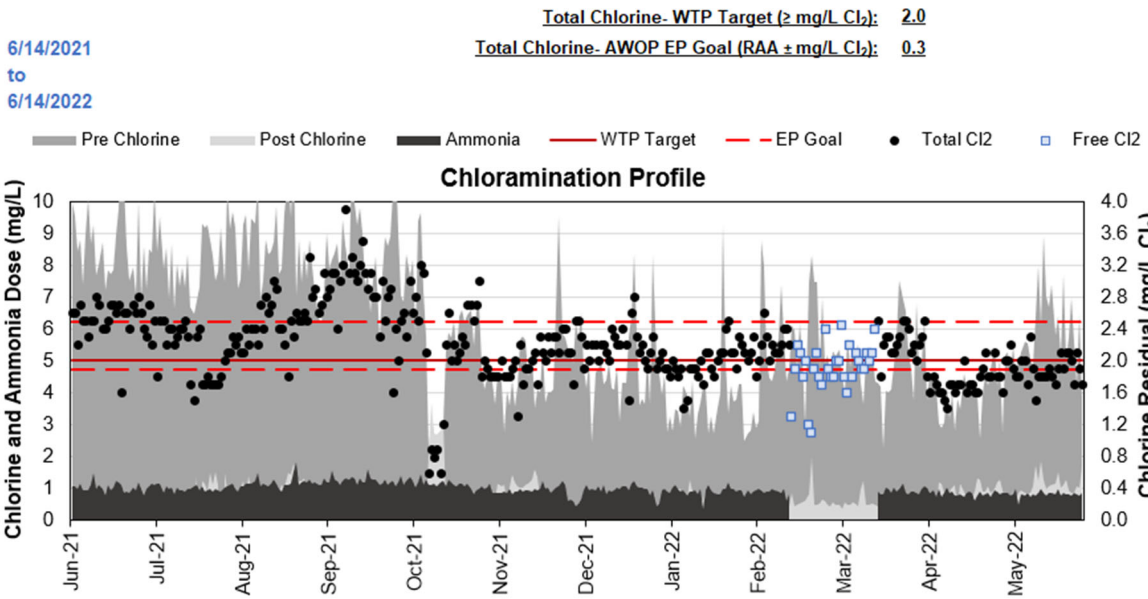
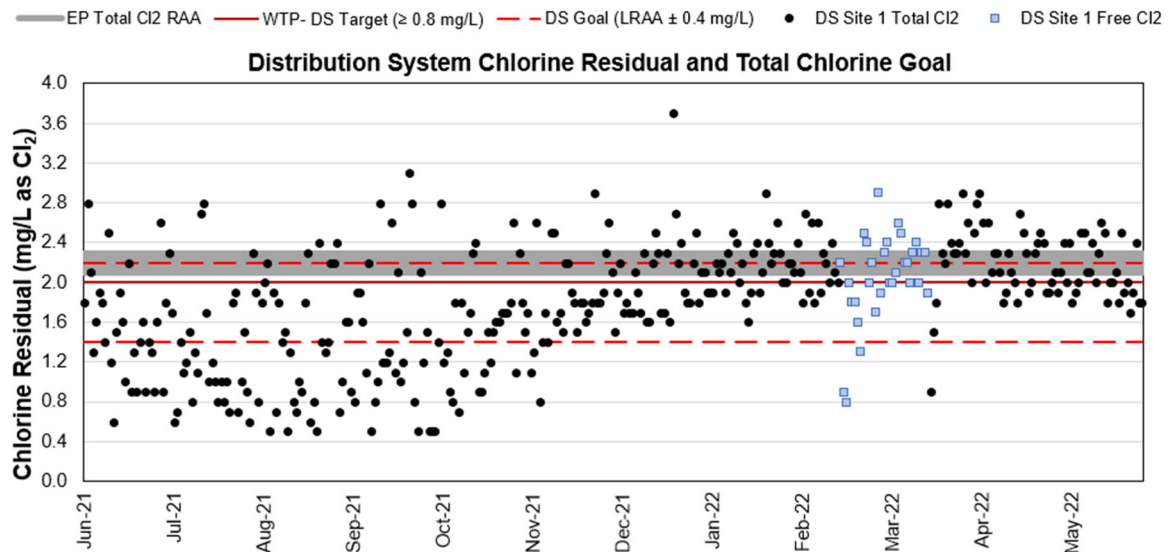

Figure 5: Example Disinfection Performance Summary in OAS
Figure 6: Example DS Chlorine Residual Performance Summary in OAS
- The example residual maintenance performance summary in Figure 5 shows the proposed EP total chlorine goal² (RAA \pm 0.30 mg/L Cl_2) was met in 50% of measurements. Figure 6 shows disinfectant residual measured at a DS sample site not meeting the proposed DS total chlorine